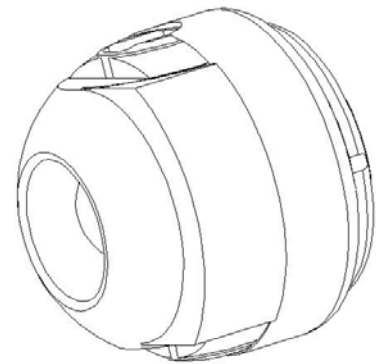

Figure 2
12. See Figure 2 for assembled ball and cavity fillers. Not shown is the ball retainer (see balloon 7) and far side filler (see balloon 6) for clarity.